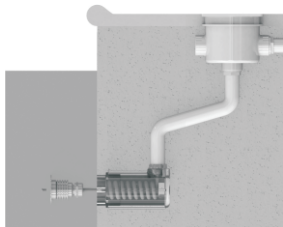
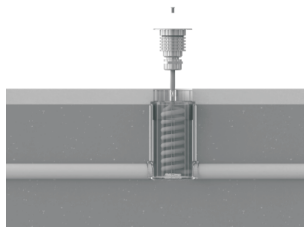

Figure3
Figure4
6. First pre-embedded pool shell concrete wall or floor mounted inside, the copper nutshell surface or ground pool complete the flush (Figure 3, Figure 4).
7. Extra cable is coiled and housed in the housing to allow access for maintenance of the pool light (Figure 3, Figure 4).
8. Fix pool light into the housing and use two screws to hold in place (Figure 3, Figure 4).